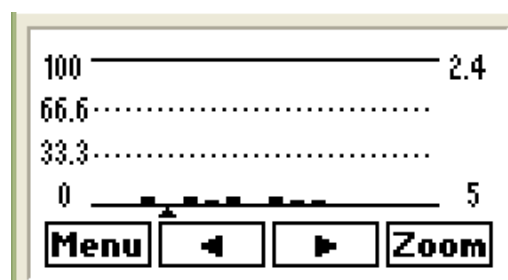

Fig. 110.- Graphical display of harmonics
- The numerical display screens show the **Grap** dynamic key. Press the key to display the harmonics in a bar graph (Fig.110) and use the keys **◀** **▶** to change the harmonics cursor. The harmonics order (lower part) and % value (top part) will be displayed on the right of the screen.